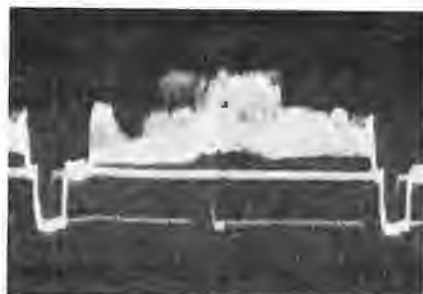

Fig. 12. Scope display having TVV and TVH modes of operation.
**TVV and TVH Modes.** Some time bases in oscilloscopes have two preset positions for TV vertical and TV horizontal waveforms. The positions, usually labelled tvv and tvh, correspond to the television vertical and horizontal sync rates of 60 Hz and 15.75 kHz (sometimes 7.875 kHz). With this feature, viewing the composite video signal (Fig. 12) is greatly simplified.